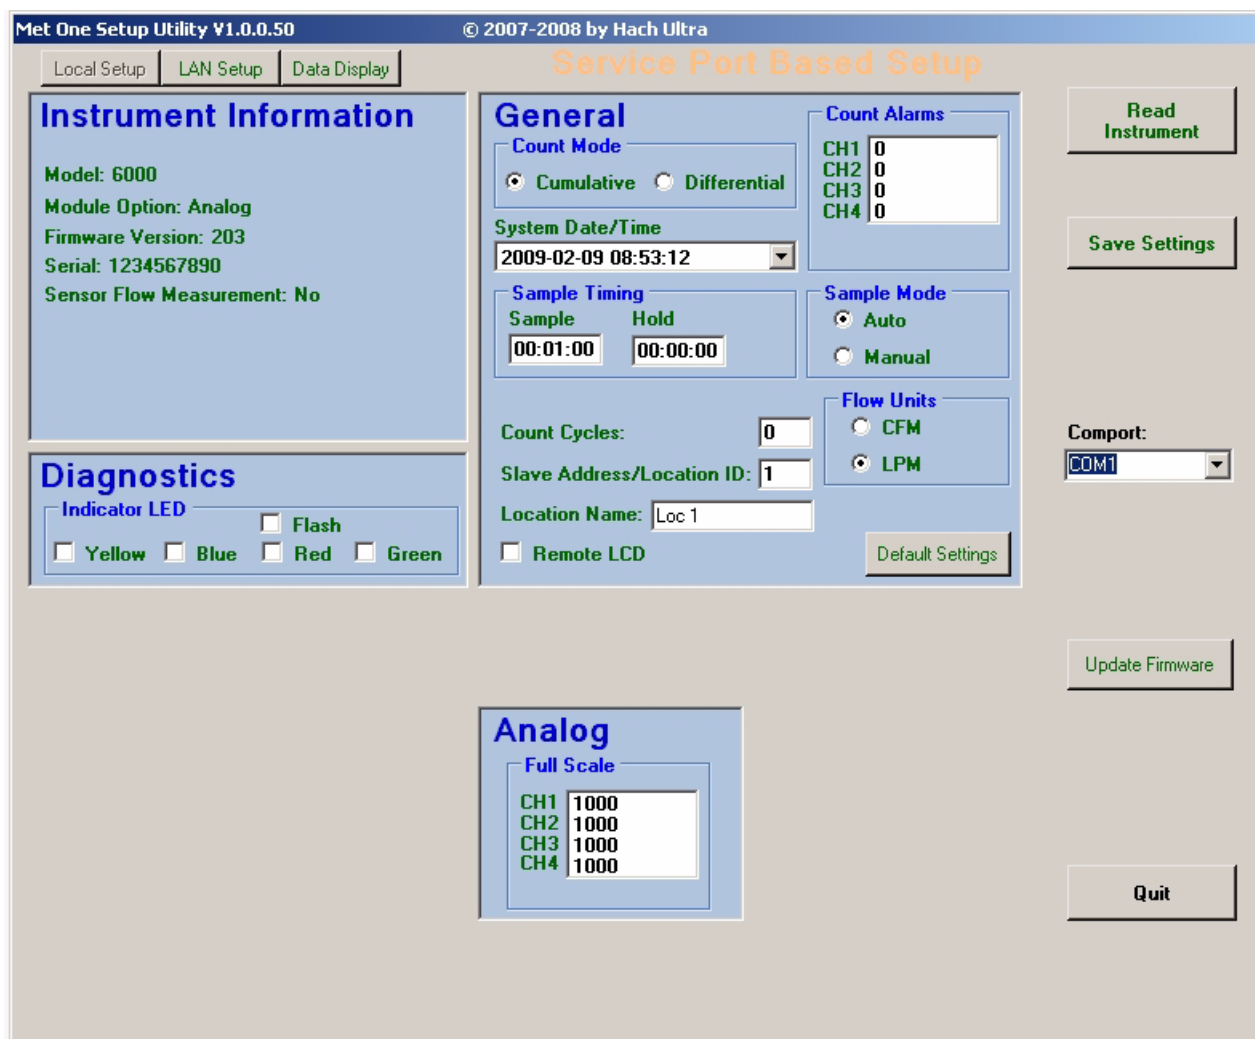

Figure 18 Setup Utility, Local Setup tab—analogue unit
1. Go to the **Local Setup** tab of the Setup Utility and click **READ INSTRUMENT** (Figure 18).
4. On the **Local Setup** tab in the Setup Utility, set the Sample Mode to **Manual** (Figure 18).